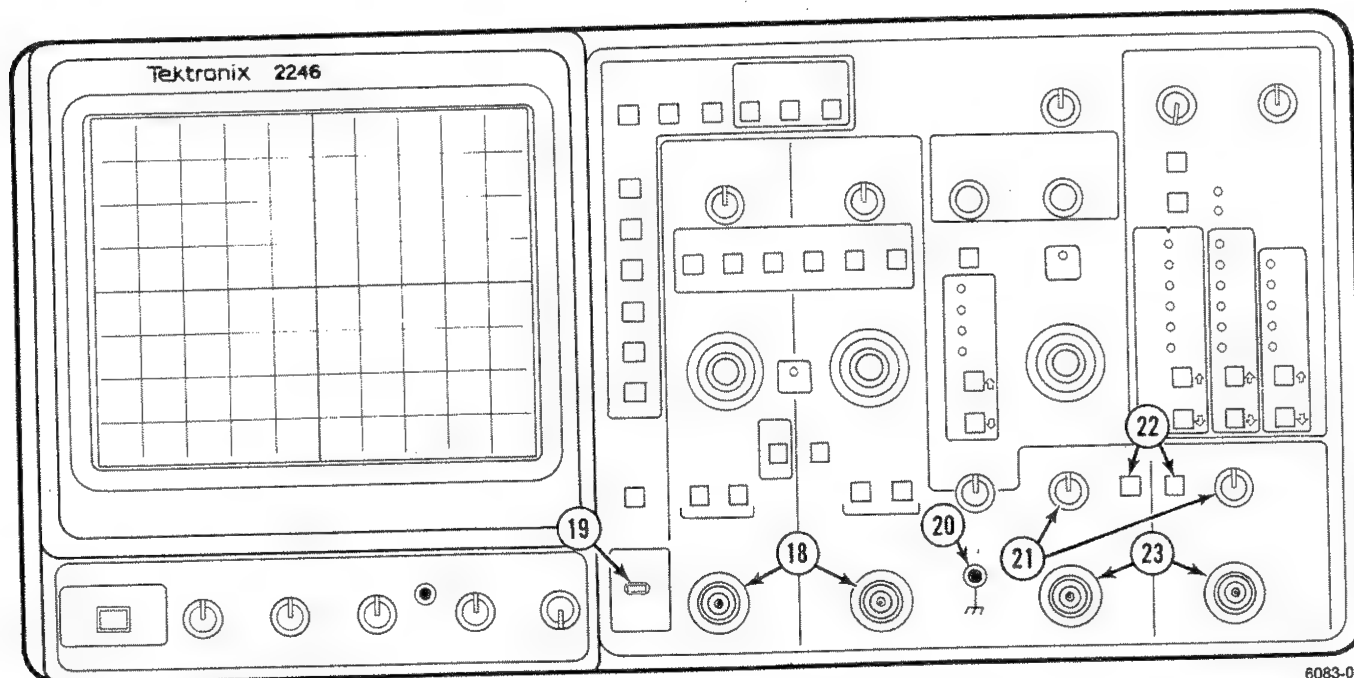

Figure 3-3. Vertical connectors and CH 3 and CH 4 Controls and Indicators.
See Figure 3-3 for items 18 through 23.